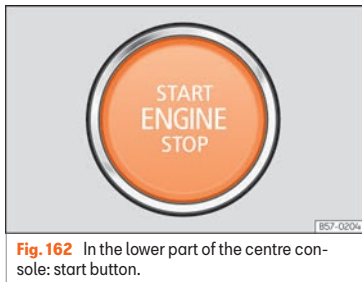

Fig. 162 In the lower part of the centre console: start button.
When entering the vehicle, the start button » **Fig. 162** flashes to draw attention to it.
- Press the starter button »» **Fig. 162**; do not press the accelerator. There needs to be a valid key inside the vehicle for the engine to start. After starting the engine, the lighting of the **START ENGINE STOP** button remains fixed indicating that the engine is running.
- Briefly press the start-up button  **Fig. 162.**